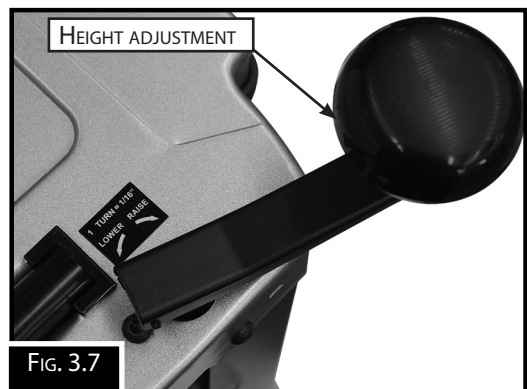

FIG. 3.7
**Height Adjustment Handle:** The thicknesser depth of cut is controlled by using the elevation crank on top of the machine. Rotating the crank clockwise raises the cutterhead. (Fig. 3.7)